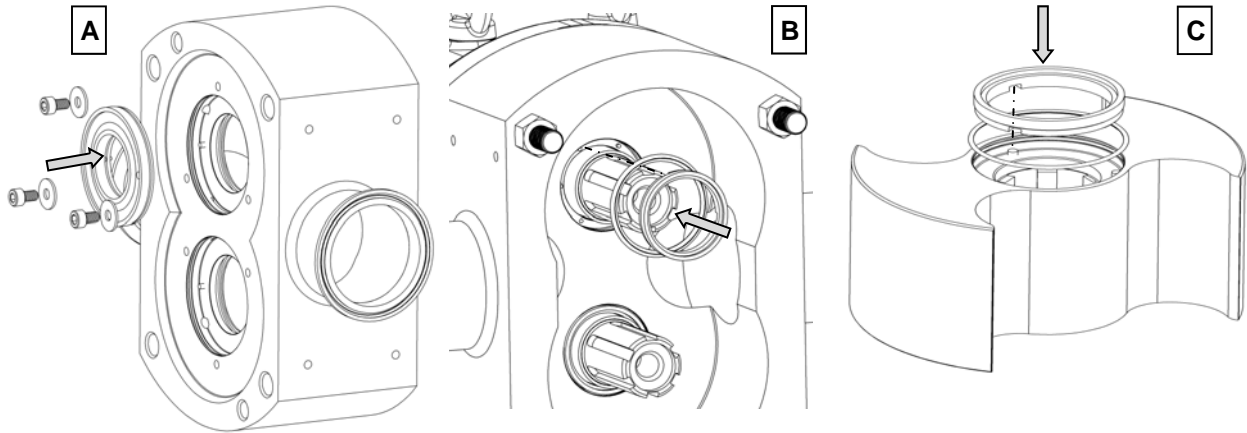

Figure 34: Single Mechanical Seal Assembly
*Assembly:* Clean both shaft ends and the body before assembling. Slide the mechanical seal bases into the body and secure them with the retaining bolts and washers (Figure 34, A). Apply a light film of lubricant to NEW o-rings and insert them into the body (Figure 34, B) and rotors (Figure 34, C) along with the mechanical seal faces. Make sure to align the slot on the seal to the pins in the body and rotor. See Pump Assembly on page 31 to continue.